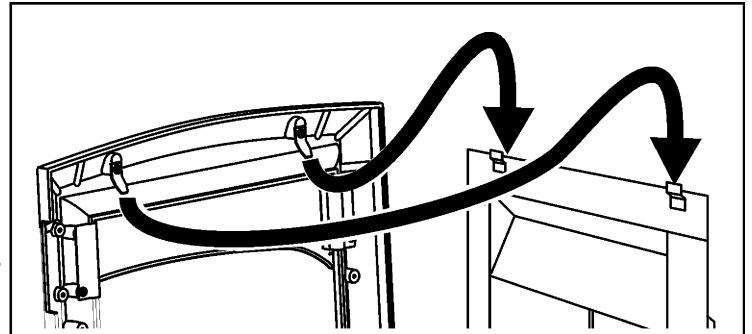

Figure 34. Bolero Fascia location
1. Place the fascia against the fireplace front surface so that the two retaining plates at the back of the fascia are directly above the two upper retaining brackets at the top of the convection box. Lower the fascia making sure that the retaining plates locate fully over the brackets on the convection box (See figure 34).